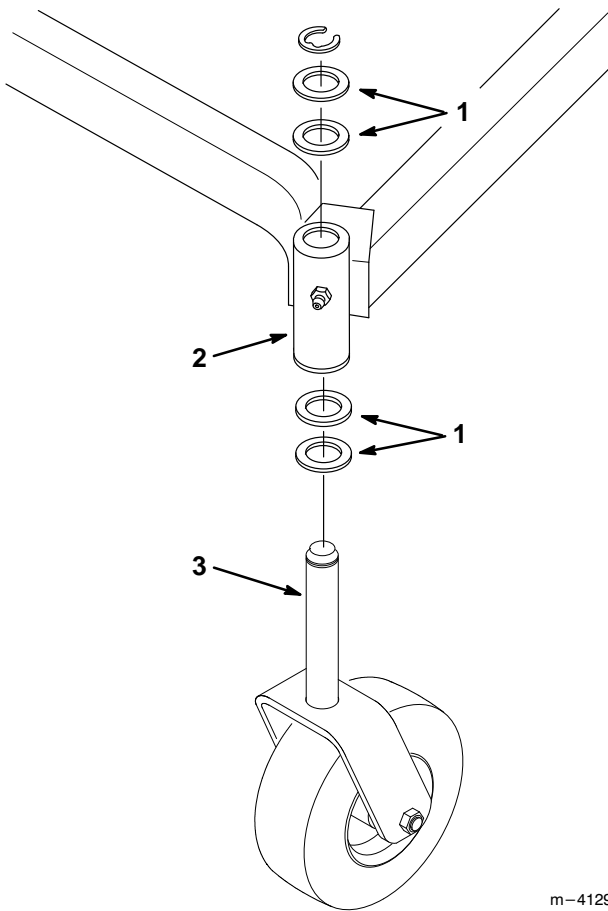

Figure 16
4. To change the front-to-rear pitch, move an equal number of thrust washers on both castor wheel forks. Move the thrust washers from the top of the carrier frame mounting tube to the bottom to raise the front of the mower. Move the thrust washers from the bottom of the mounting tube to the top to lower the front of the mower. (Fig. 16).
4. To change the side-to-side leveling, move the thrust washers on one castor wheel fork only. Move the thrust washers from the top of the carrier frame mounting tube to the bottom to raise the corresponding side of the mower. Move the thrust washers from the bottom of the mounting tube to the top to lower the corresponding side of the mower. (Fig. 16).